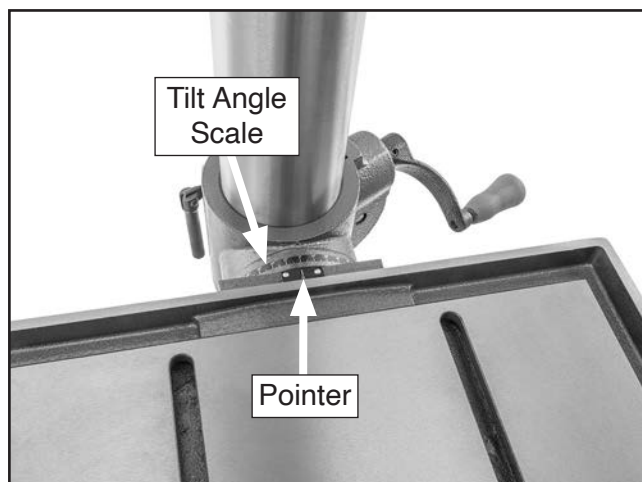

Figure 41. Location of table tilt scale and pointer.
2. Tilt table until pointer aligns with desired angle on scale (see **Figure 41**).